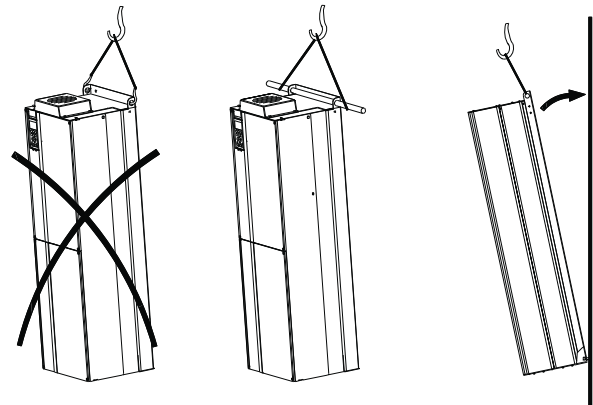

Fig. 2 Recommended lifting method
Always lift the CUE using the lifting holes. Use a bar to avoid bending the lifting holes. See fig. 2.
3. Fit the screws at the bottom, but leave loose. Lift the CUE up on the screws. Move the CUE against the wall, and fit the screws at the top. Tighten all four screws. See fig. 2.